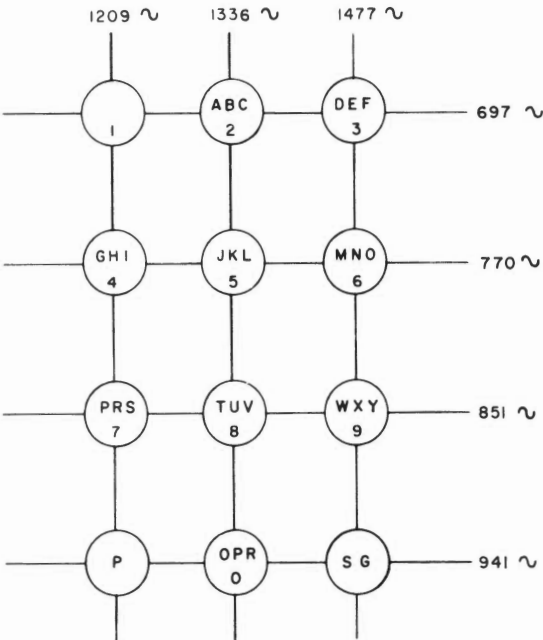

Fig. 1 – Dial Frequencies
I.01 This section shows how to connect the 568HT (TOUCH-TONE dial, Fig. 1 and 3) and the 568HB (Rotary dialing, Fig. 2) telephone sets.
I.10 When a dial button is depressed, two tuned circuits are selected corresponding to the two frequencies required (Fig. 1), and the dial circuit is closed to the ring side of the line. The two frequencies generated by the oscillator are transmitted over the line to the central office receiving equipment which registers the corresponding digit.